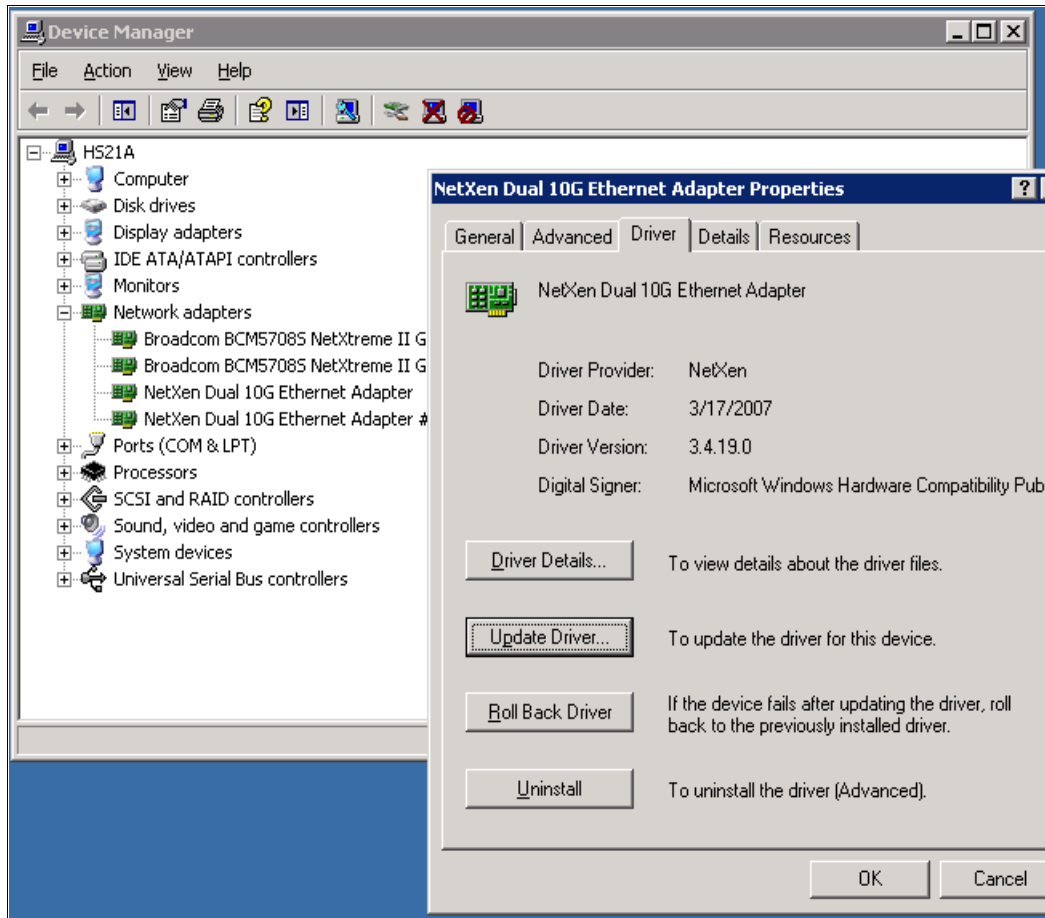

Figure 5-4 NetXen driver 10 Gb Ethernet Adapter properties
1. Open Device Manager and right click (the first NetXen adapter) **NetXen Dual 10G Ethernet Adapter** → **Properties** → **Driver** → **Update Driver**. See Figure 5-4 on page 65.